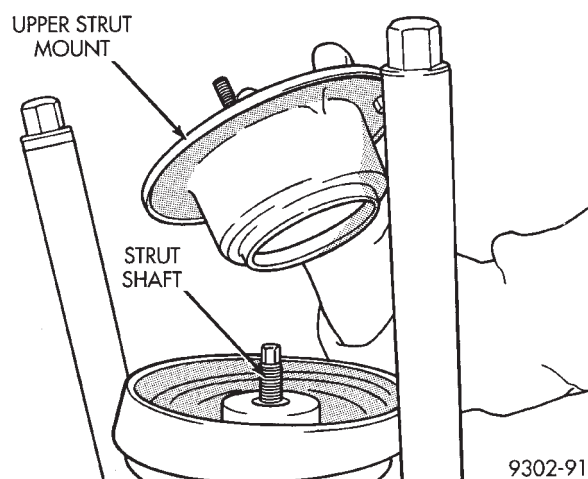

Fig. 3 Upper Strut Mount Removal
(5) Remove upper strut mount assembly from strut shaft (Fig. 3).